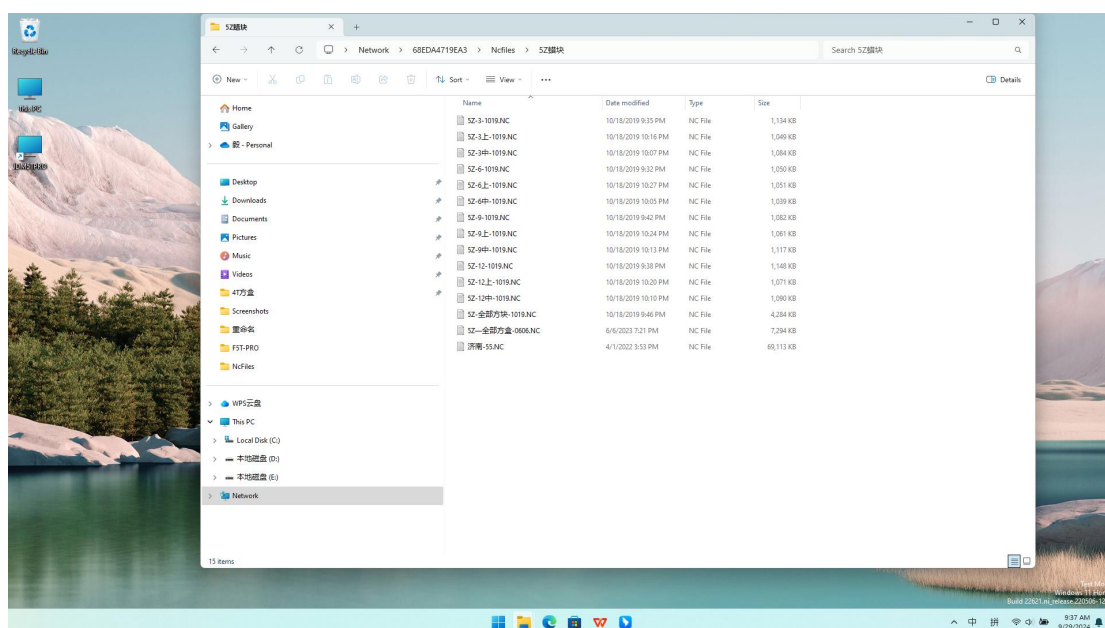

图 7.2.13
(13) As shown in Figure 7.2.13, you can view the NC files inside the machine tool through the industrial computer (IPC). Additionally, you can remotely copy, transfer, or delete NC files.